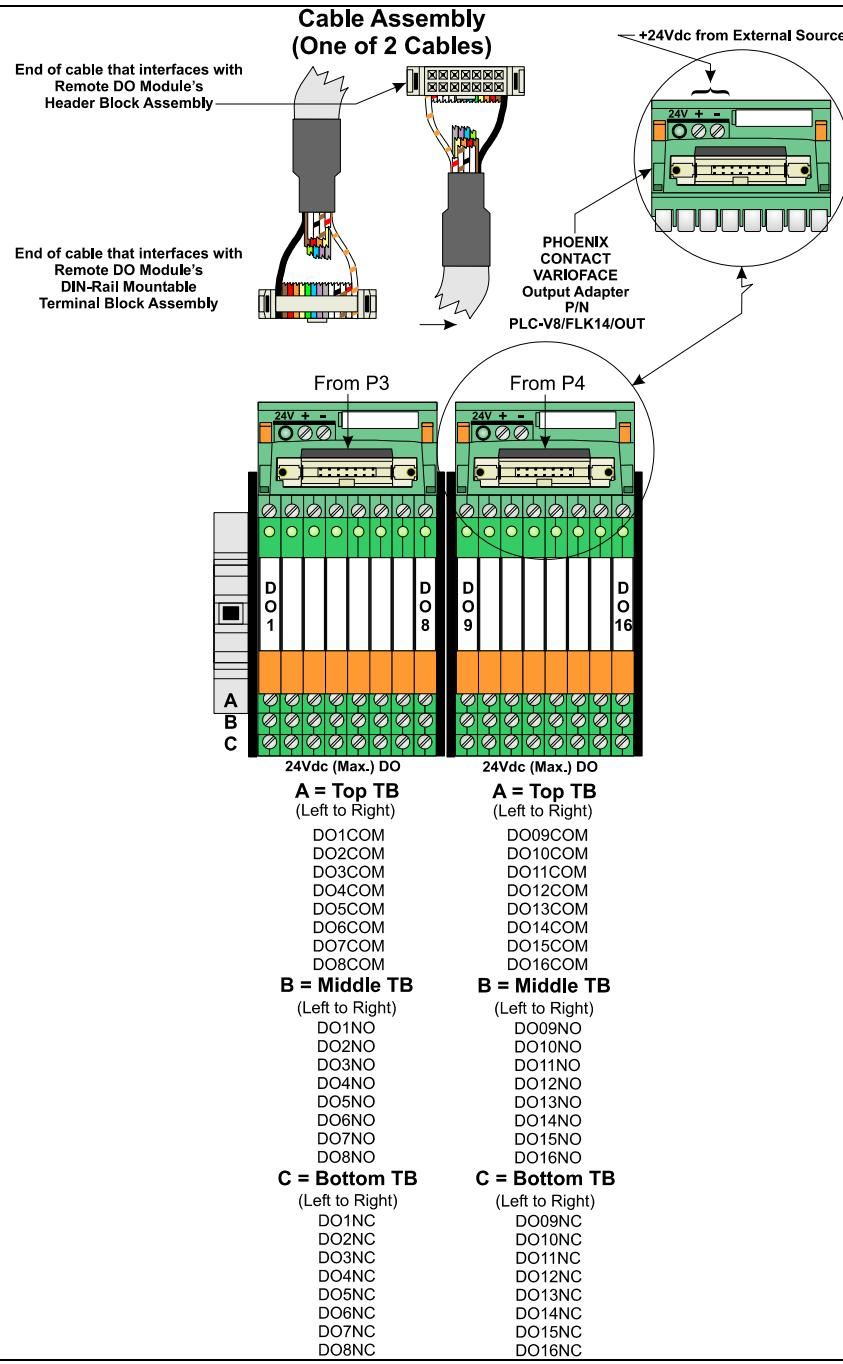

Figure 3-8. Isolated DO Module (Remote Termination with Relay Isolated with 24 Vdc)
**Wiring the Module** Figure 3-6 shows field wiring assignments associated with a locally terminated DO module; Figure 3-7 shows field wiring assignments associated with remotely terminated DO modules. Figure 3-8 shows a remote termination module with built-in discrete relay modules.
*Figure 3-7 shows the terminal block assignments for a remotely terminated DIN-rail mounted open source isolated DO module. Figure 3-8 shows the terminal block assignments for a remotely terminated DIN-rail mounted relay isolated 24 Vdc DO module.*